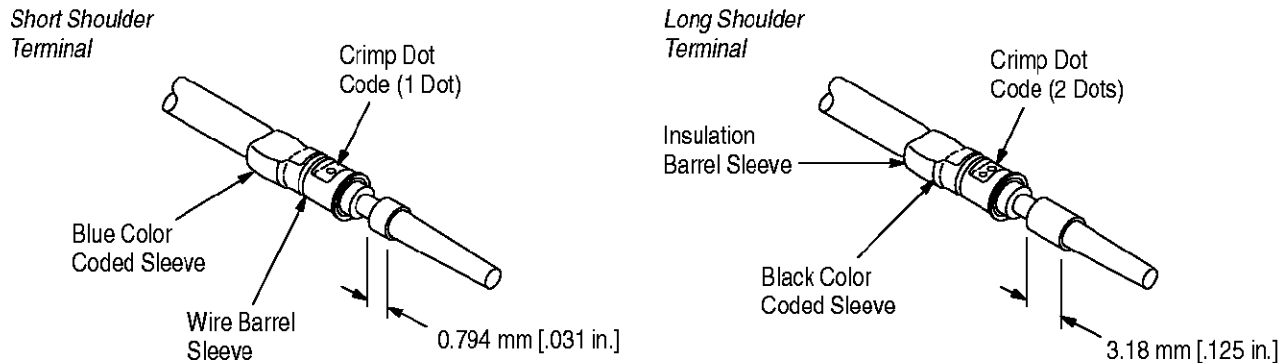

Figure 3
9. Remove the crimped terminal from the crimping jaws and inspect the crimp. The crimp dot code on the color coded sleeve will identify the hand tool used. Make sure that the proper crimp dot code is shown for the appropriate hand tool. Refer to Figure 1. Refer to Figure 3 for a properly crimped terminal. Check the insulation grip by referring to Section 4, INSULATION CRIMPING ADJUSTMENT.